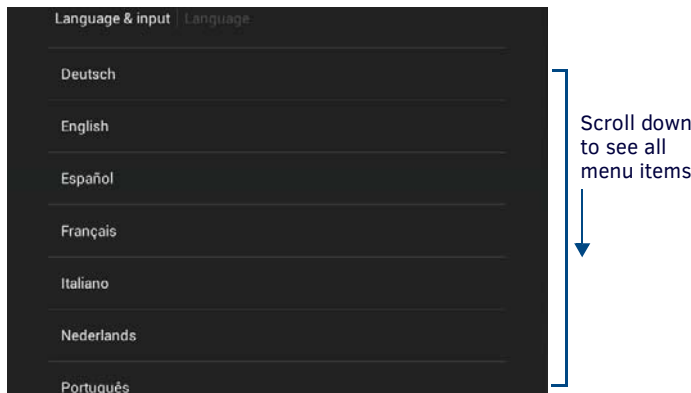

FIG. 85 Language Selection window
1. In the *Language & Input* page, press **Language** to open the *Language* window (FIG. 85).